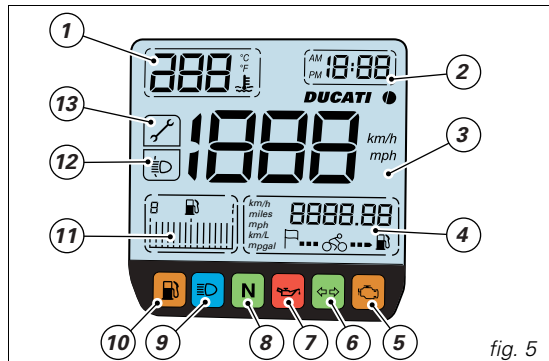

fig. 5
This function indicates how far the vehicle can travel using the fuel left in the tank. When this display function is not selected, the display automatically switches to "Range" indication as soon as the LOW FUEL LIGHT (10, fig. 5) comes on and the display shows a string of dashes "- - . -" and the indication for 10 seconds. Range indication is then turned on automatically every 60 seconds while the low fuel light stays on.
When the LOW FUEL LIGHT (10, fig. 5) comes on, the display shows a string of dashes "- - . -" and the fuel pump symbol begins to flash.
*This function allows headlight beam height setting. To enter this function, hold down button **(B)**, see page 11) and turn the key to **ON**; the display shows a value (fig. 11a) corresponding to beam position and the pilot light on the display (12, fig. 5) comes on. Use buttons **(A)** and **(B)**, respectively, to lower or raise the beam. Range available is from position "3" (max. beam height) to position "-3" (min. beam height). Turn the key to **OFF** to exit the function. While exiting setting mode, the selected beam position is stored.*